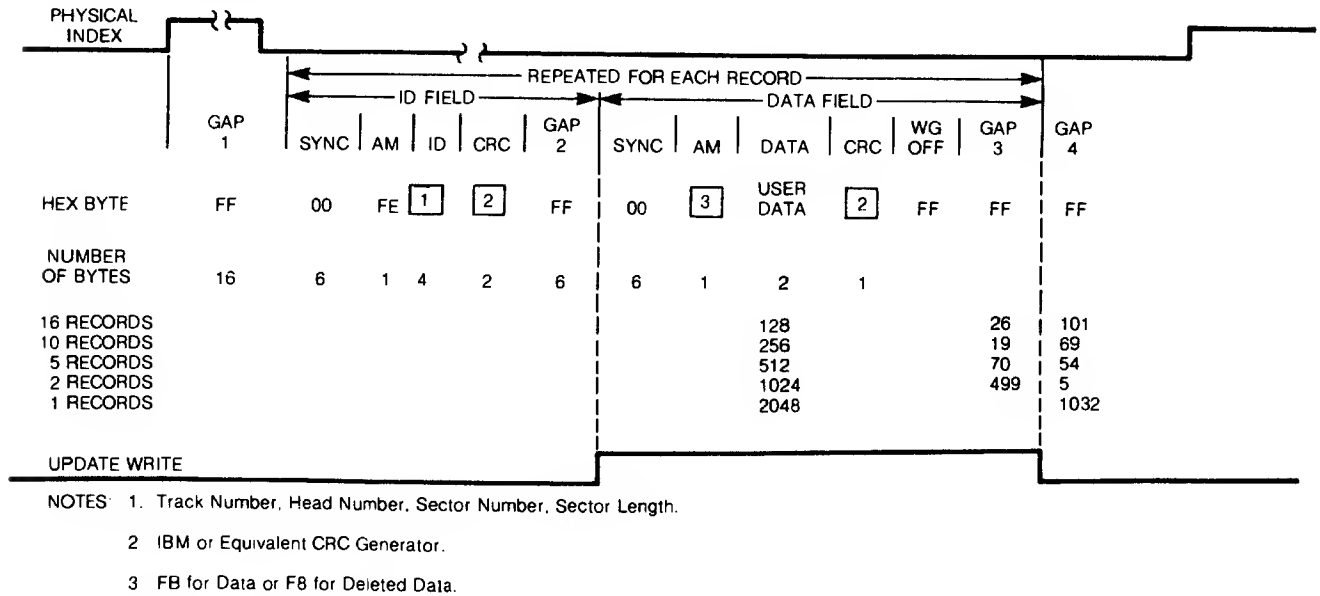
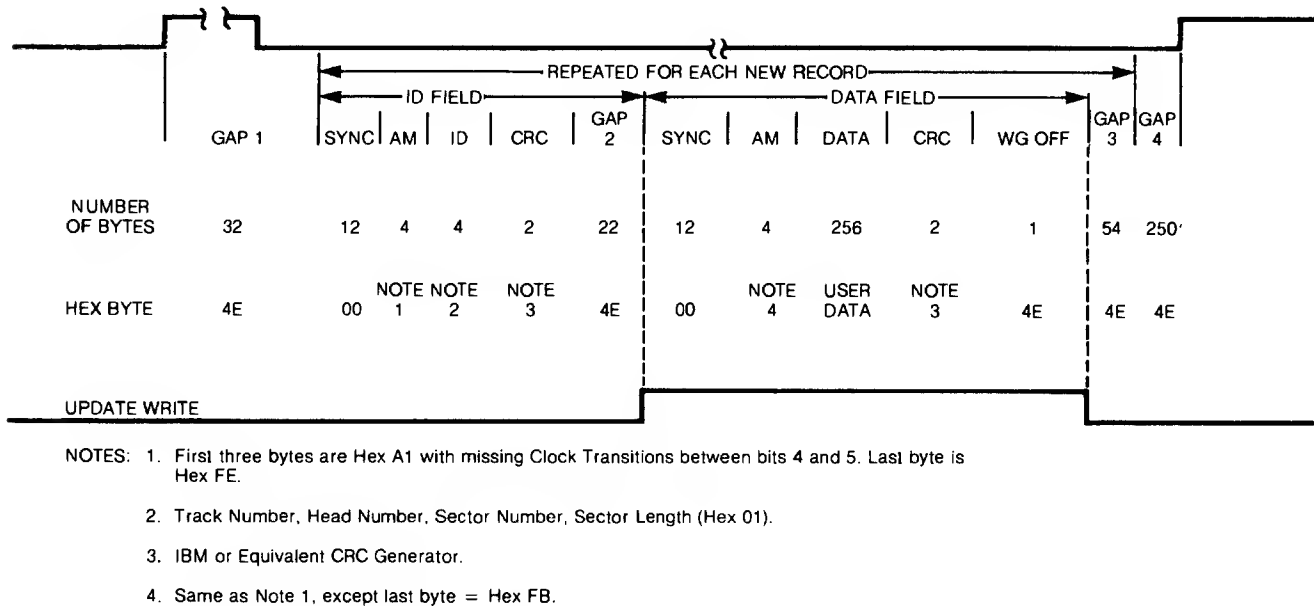

FIGURE 25. RECOMMENDED SOFT SECTOR SINGLE DENSITY (FM) (EVEN BOUNDARIES)
FIGURE 26. MFM RECOMMENDED FORMAT - 256 BYTES/16 RECORDS PER TRACK (IBM TYPE)
In this format, the using system may record one long record or several smaller records. Each track is started by physical index pulse and then each record is preceded by a unique recorded identifier. This type of recording is called soft sectoring. Figure 25 illustrates the recommended single density (FM) formats. Figures 26 shows the recommended double density (MFM) formats.